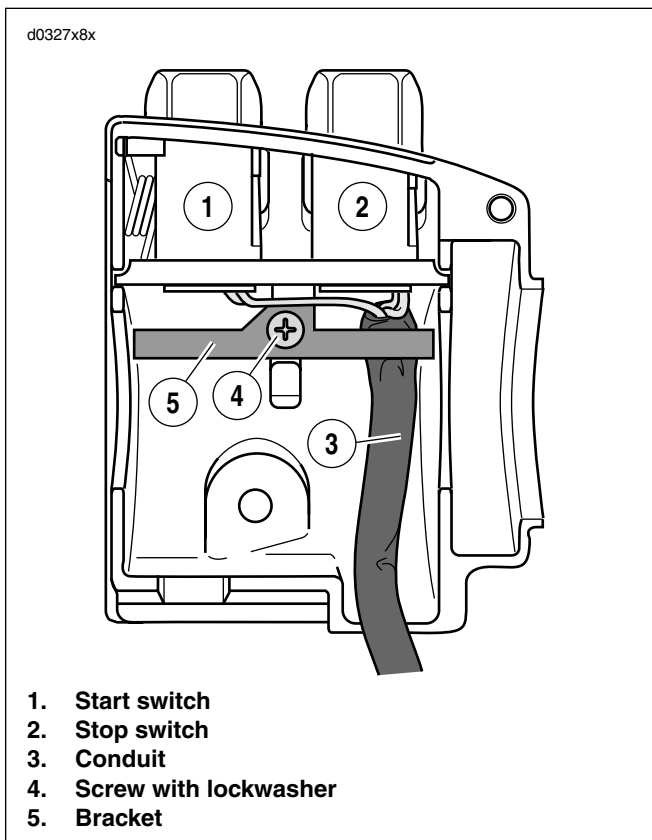
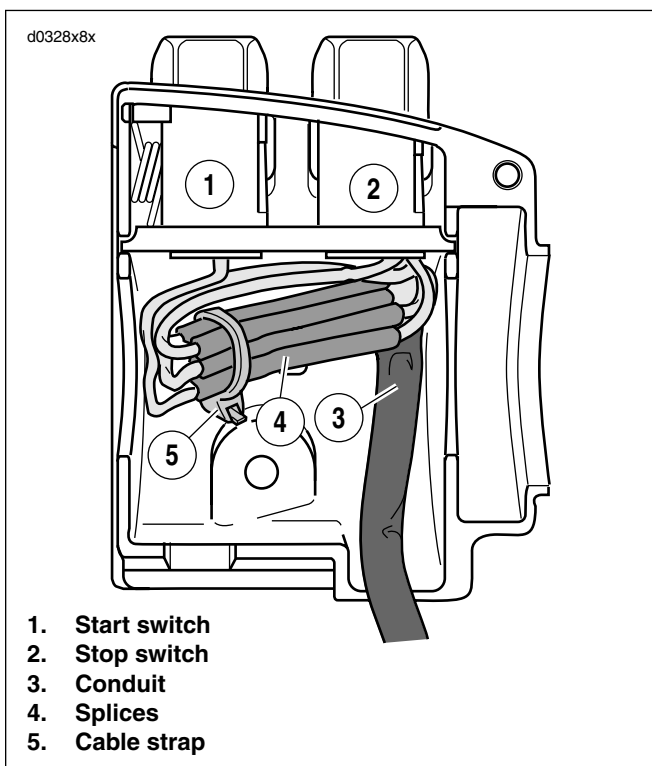

Figure 8-40. Upper Housing Without Splices
Figure 8-41. Upper Housing With Splices
1. See Figure 8-40. From inside the switch housing, remove the screw with lock washer to release the bracket. Remove the bracket and switch assembly from the housing.
6. Loop switch wires so that spliced lengths are positioned as shown in Figure 8-41. Route wires downstream of splices beneath wing on engine stop switch side of bracket as seen in Figure 8-40.
7. See Figure 8-41. Install a **new** 177.8 mm (7.0 in.) cable strap (5) beneath wing on engine start switch side of bracket and capture wire splices.
9. See Figure 8-40. Install screw and lock washer to secure bracket inside housing. Verify that wing on engine stop switch side of bracket captures edge of conduit as shown.